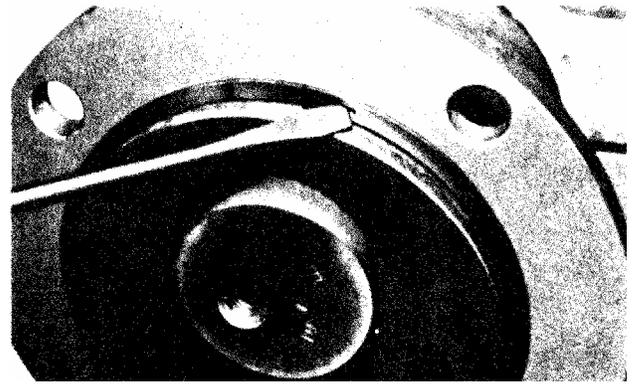

Figure 4.3. Typical Retaining Ring Removal
2. Remove section of discharge pipe attached to discharge flange (8).
4. Remove top half of stator support (13).
5. Unbolt stator clamp ring (9) from suction housing (35). Pull stator off rotor (see methods below). Remove stator gasket (4). Use a screwdriver tip to carefully remove stator retaining ring (39) (See Figure 4-3.). Remove stator clamp ring (9) from stator (11).